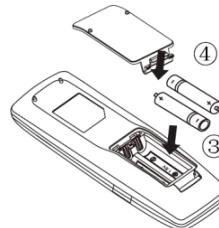

Fig.2
- (3). Place two 7# (AAA 1.5V) dry batteries, and make sure the position of "+" polar and "-" polar is correct (as shown in Fig 2③).
- (4). Reinstall the cover (as shown in Fig 2④).